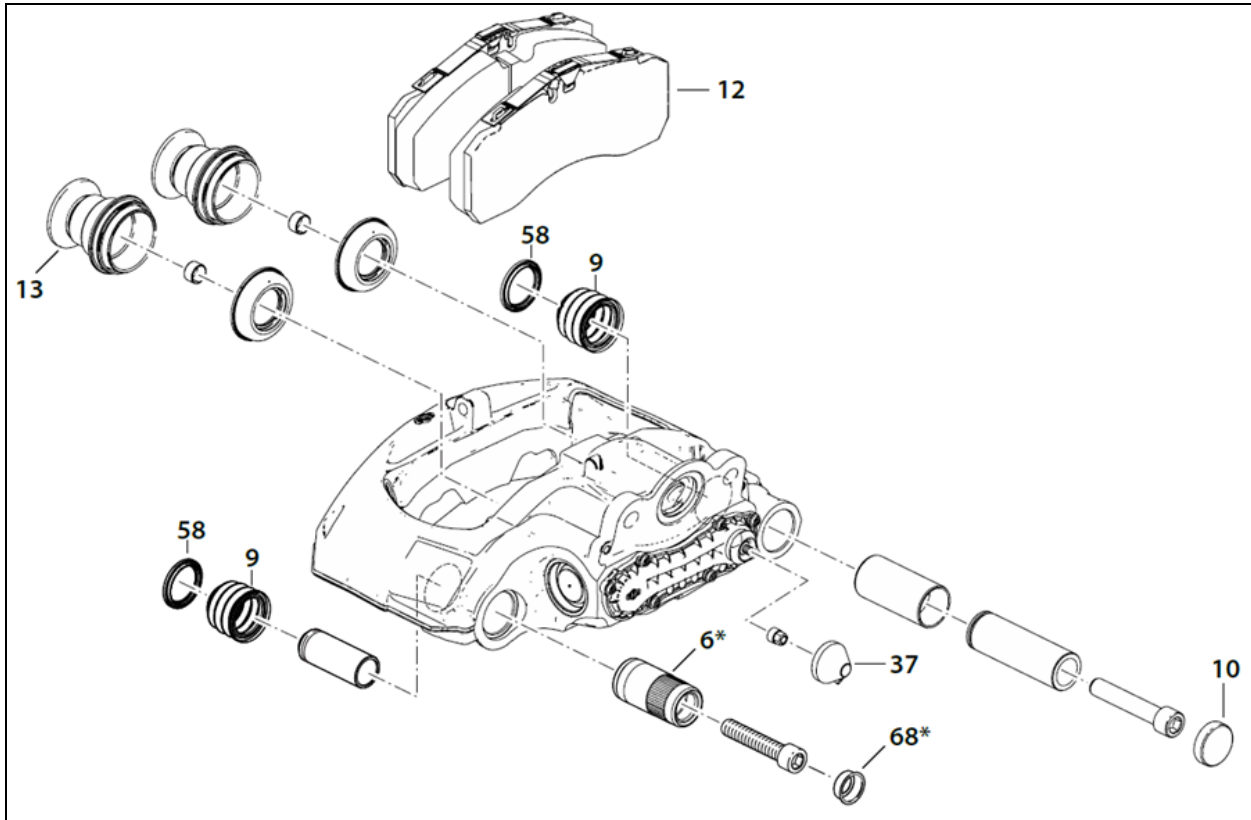
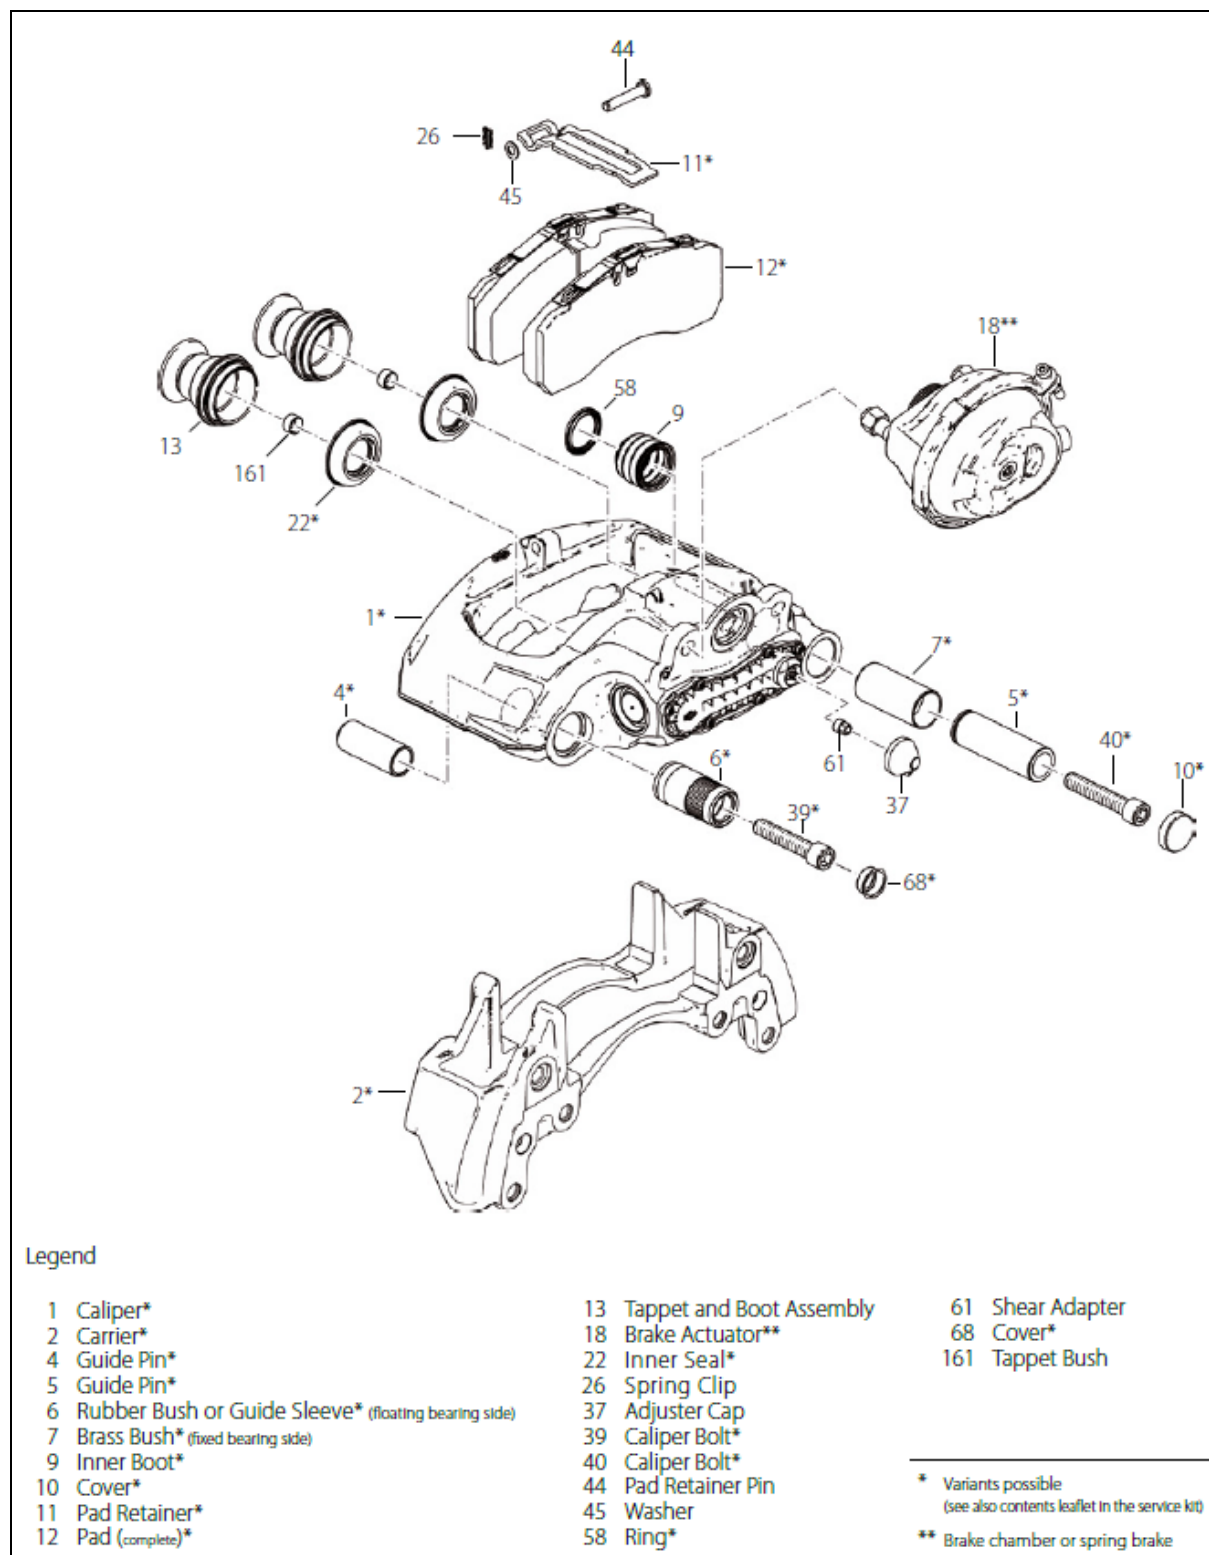

FIGURE 22: INSPECTION POINTS IDENTIFICATION
FIGURE 23: DISC BRAKE COMPONENTS
At each pad replacement, make sure the caliper operates smoothly over its full range of movement. If the caliper shows the following signs, replacement of the rubber bush/guide sleeve (item 6, Figure 22), guide pin (items 4 & 5 Figure 23, screw (items 39 & 40) and cap (items 10 & 68) is required.